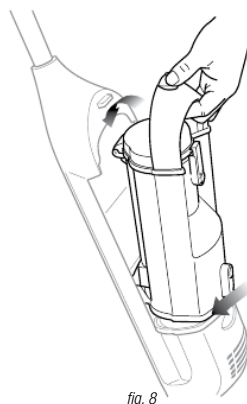

fig. 8
- 6 Replace the dust cup by first seating the lower part of the dust cup, then pushing in the top part until it clicks. (fig. 8)